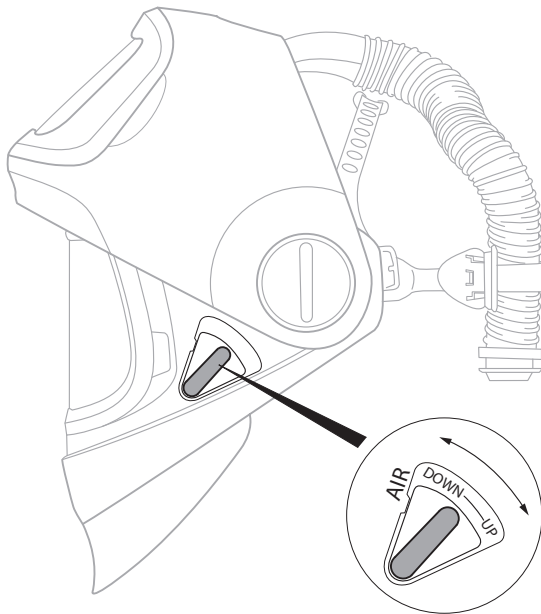

Fig. 8a
- To adjust airflow from bottom to top, locate the UP – DOWN lever on the left side of the welding helmet. Adjust it to the desired position for incoming airflow (Fig. 8a & 8c). The adjustment drives a set of gears in the top of the welding helmet that runs air to different channels.